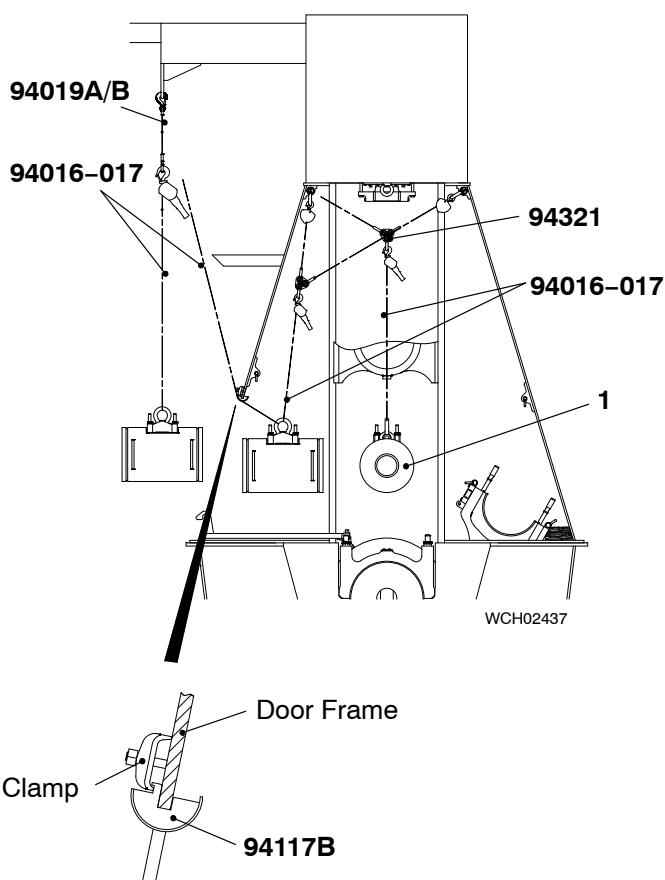

Fig. 7
- 43) Attach the protection tool (94117B, Fig. 7) to the door frame.
- 45) Attach the manual ratchet (94016-017) to the chain (94019A/B) and the eye bolt on the crosshead (1).
- 46) Turn the crosshead pin (1) 90°.
- 49) Remove the manual ratchets from the eye bolt on the crosshead pin (1).